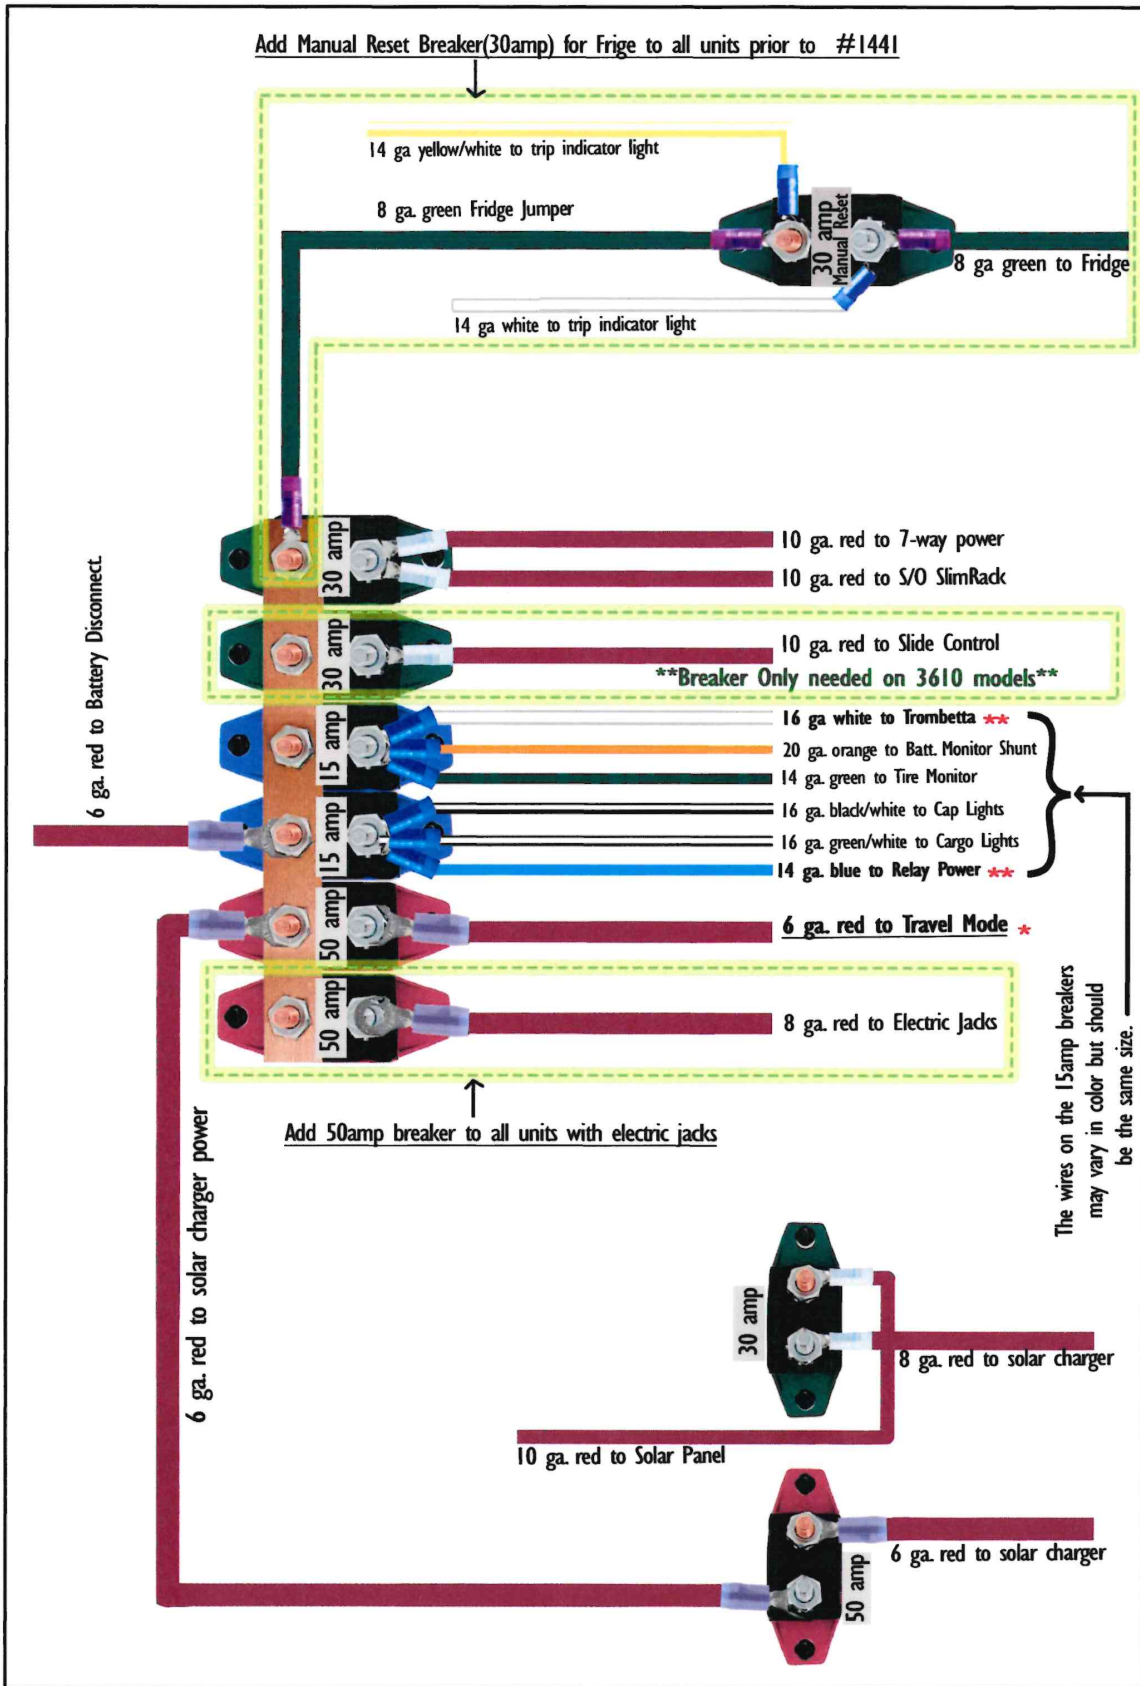

Figure 33
49. Repair complete (reference Figure 33 - final diagram on the final page).